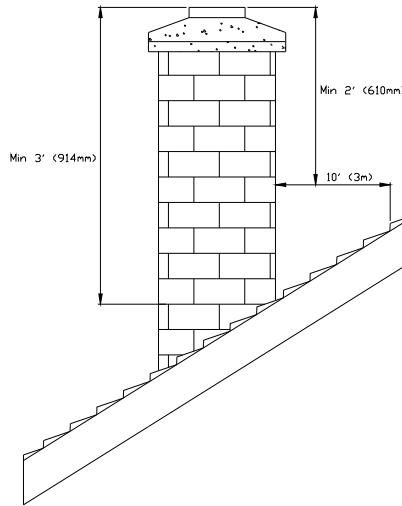

FIGURE 2.2 Minimum Height of the Chimney
- The chimney must rise above the roof at least 3' (0.9 mm) from the uppermost point of contact. See Figure 2.2.
- The chimney must exceed any part of the building or other obstruction within a 10' (3.04 m) distance by a height of at least 2' (0.6 m). See Figure 2.2.